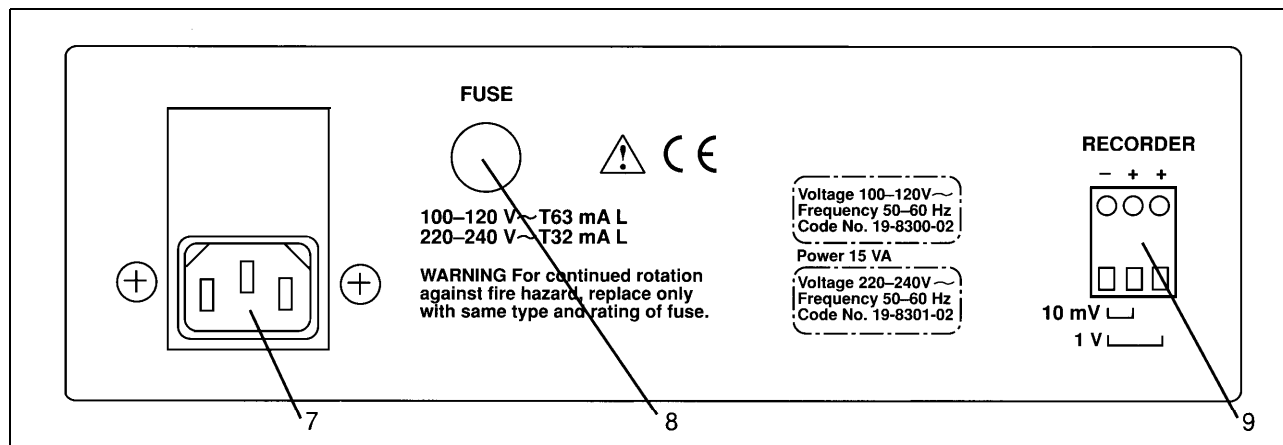
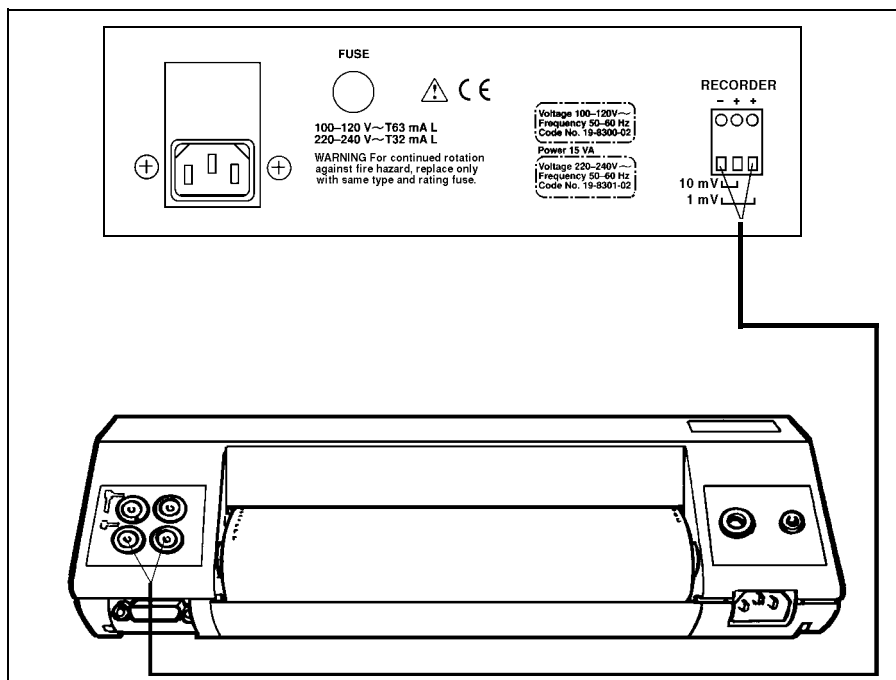

Fig. 2.
Fig. 3. The pH Monitor connected to recorder REC 102
1. Connect the appropriate output (Fig. 2:9) to a recorder using the signal cable supplied with the pH monitor. Using the left and the middle output contacts gives 0-10 mV; using the left and right gives 0-1 V (Fig. 3). To obtain the best stability use the range 0-1 V if possible.
2. The GE Healthcare recorders REC 101/REC 102 are supplied with pin connectors banana type with clamp connection. Connect the screened recorder cable supplied with the pH Monitor to the connecting clamp by pressing down the spring loaded key on the side of the clamp connection and insert the corresponding connecting pin on the signal cable. Release the key. Make sure that they are properly connected. (Fig. 3)